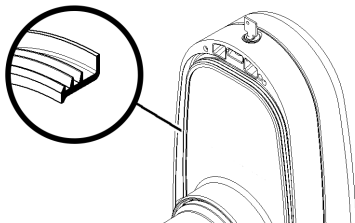

figure 21
N.B. the rim with the greater diameter must be rested on the rear wall (see figure 21).